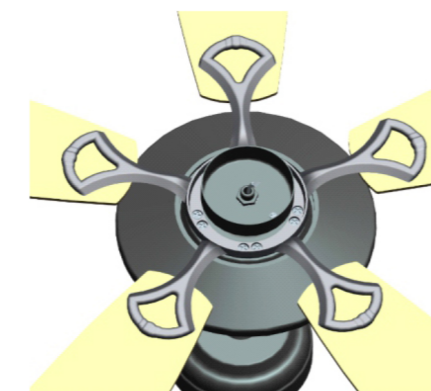

Fig 2.2
- 2.2 Install the five blade arms with the installed blades onto the corresponding mounting holes of the motor, as shown in Fig 2.2.